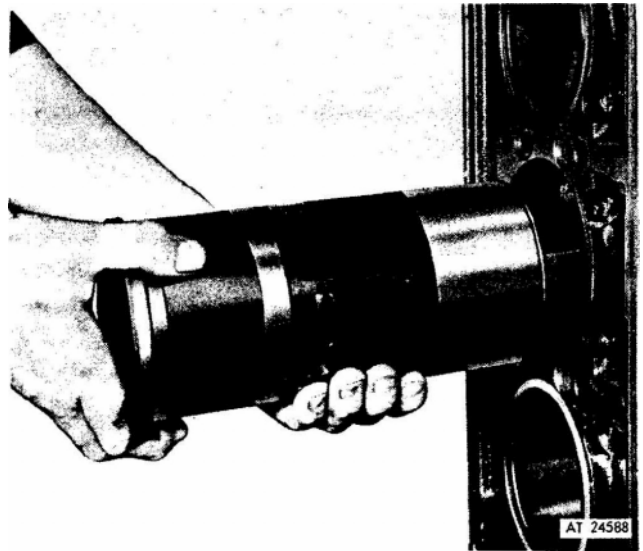

Figure 7. Installing piston, connecting rod and liner assembly in cylinder block.
6. Hold the piston, rod, and liner in line with the block bore (fig. 7) so the identification number on the rod is facing the engine serial number side (In-line engine). Also, align the match-marks on the liner and block. Now slide the entire assembly into the block bore and seal ring, being careful not to damage the seal ring.